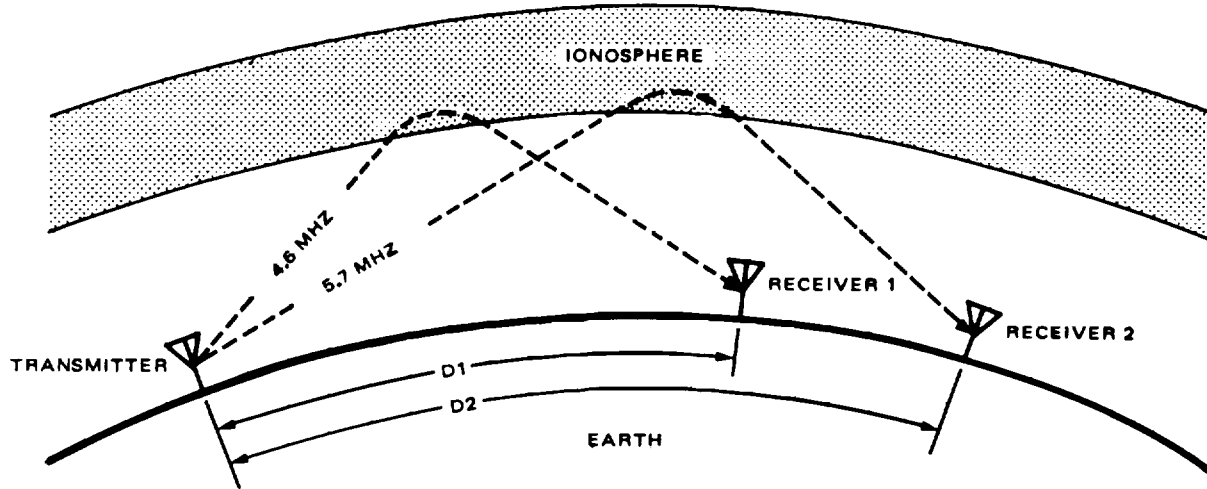

Figure A2-3. Relative Skip Distance for Two Different Frequencies
**A2-9. MAXIMUM USABLE FREQUENCY.** At any given time for a predetermined path length (skip distance there will exist a 'Maximum Usable Frequency,' MUF. This MUF is the highest frequency, radio wave that all be reflected back to earth in a specified geographical region for that path length. The MUF is a predictable number and is available in the form of propagation prediction charts. A sample of a propagation prediction chart is shown in figure A2-3. The MUF is highest at noon or early afternoon and drops to its lowest in the early morning hours. The MUF is lower on short paths and higher on long paths.